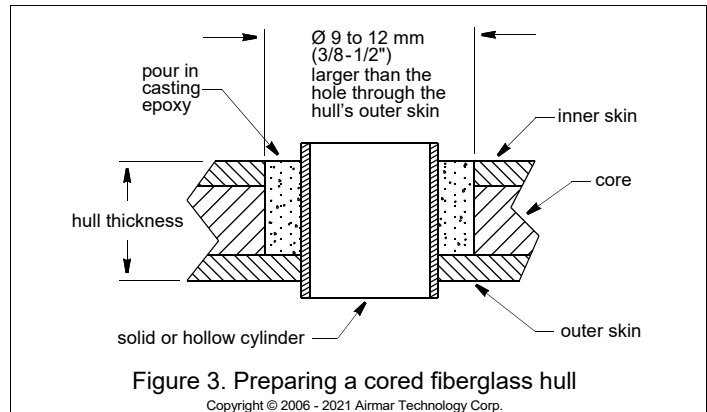

Figure 3. Preparing a cored fiberglass hull
- Using a Ø 51 mm or 2" hole saw, cut the hole from outside the hull through the *outer* skin only (Figure 3).